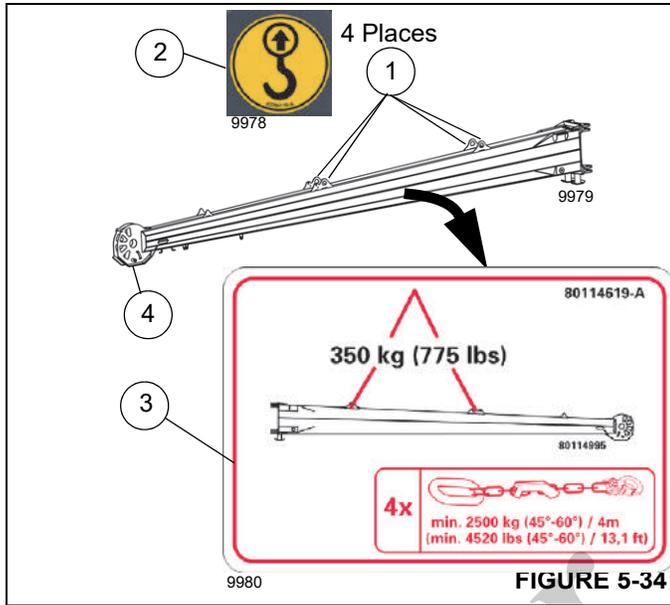

FIGURE 5-34
The fly section features four fixed attaching points (1, Figure 5-34). Decals (2) mark the attaching points. The weight information decal (3) shows information about the fly section weight and necessary lifting gear. Tie a tag line to the end of fly section (4) as necessary to guide the section during lifting operations.